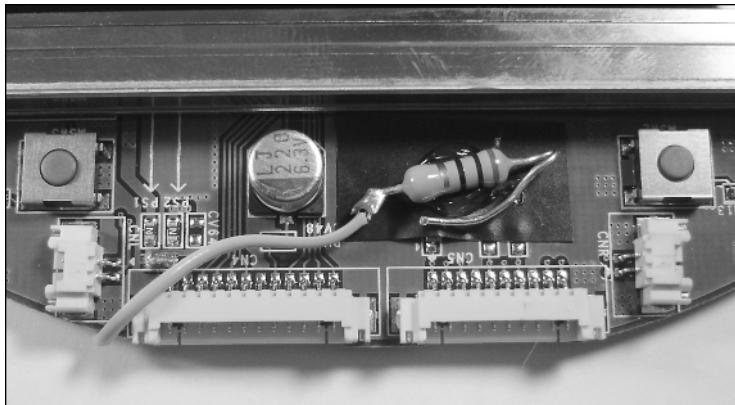

FIGURE 4-28: Placement of the 10-ohm resistor.
12. Flip to the front of the board and place a piece of electric tape down as seen in Figure 4-28. Hot-glue a 10-ohm resistor on the tape and connect your +5 volt wire to one end of it.